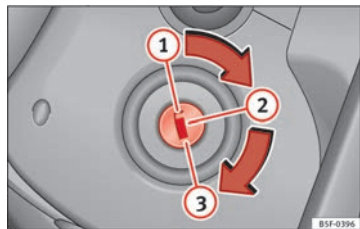

Fig. 121 Ignition key positions.
- Turn the ignition key to position ① ⇒ Fig. 121.
- Remove the key from the ignition in position ① ⇒ Fig. 121 ⇒ ⚠.